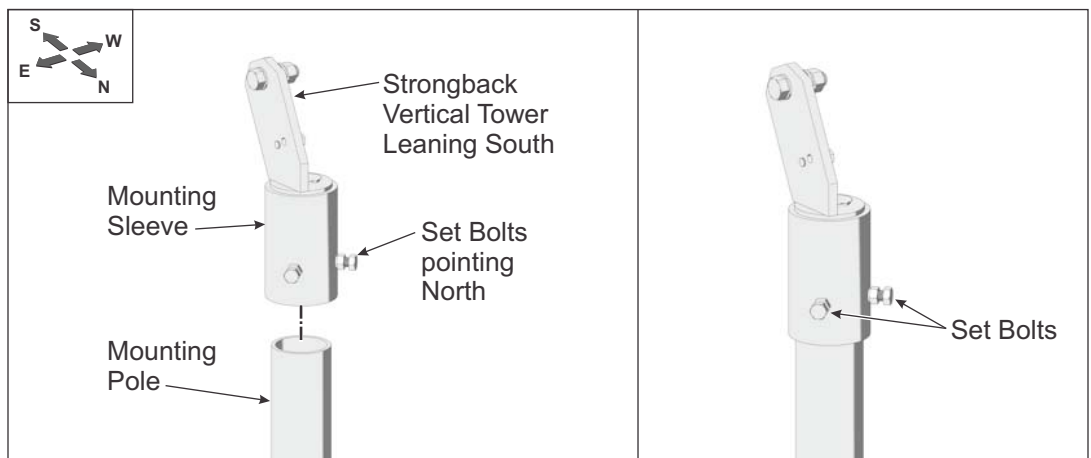

Figure 1-1: Installing the Mounting Sleeve
- Secure the Mounting Sleeve by tightening the two 3/8" Set Bolts. **Torque each Set Bolt to 32-34 ft.-lbs.** (See Figure 1-1)